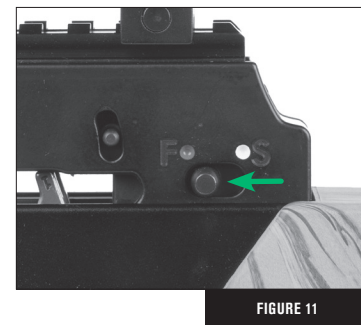

FIGURE 11
The safety is disengaged and the crossbow is ready to be cocked when the safety switch has moved from the (S)AFE position, under the white dot, to the (F)IRE position, under the red dot, as illustrated in Figure 11.
With the crossbow aimed in a safe direction and an arrow loaded, slide the safety switch (Part 2) forwards until you hear and feel the safety switch click off. The safety is disengaged and the crossbow is ready to be cocked or fired when the safety switch has moved from under the (S)AFE position and the white dot, to under the (F)IRE position and the red dot, as illustrated in Figure 11 on page 4.